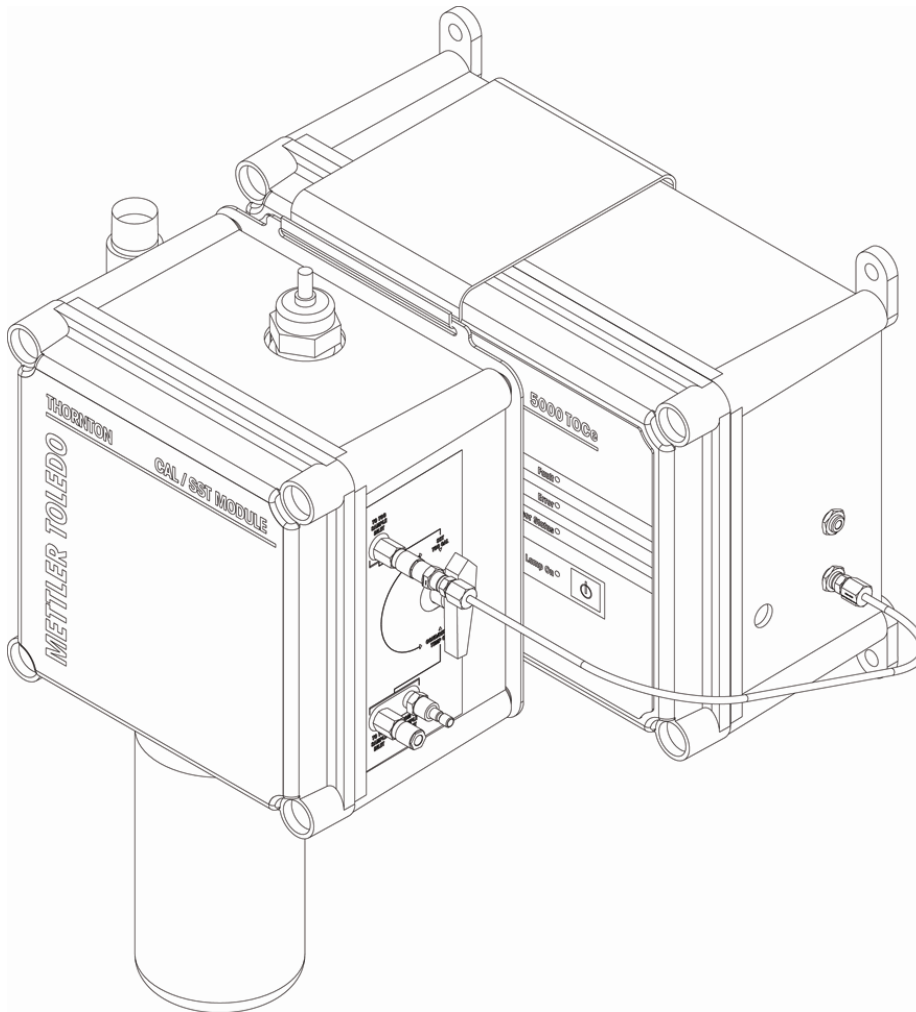

Figure 1. CAL/SST Pump Module Installation and Setup
1. Remove the mounting bracket from the carrying case and place on top of the 5000TOCe Sensor to be tested. See Figure 1.
5. Set selector valve on Cal/SST pump module to “SST/TOC CAL” position. Figure 1 shows the proper installation of the Cal/SST pump module.